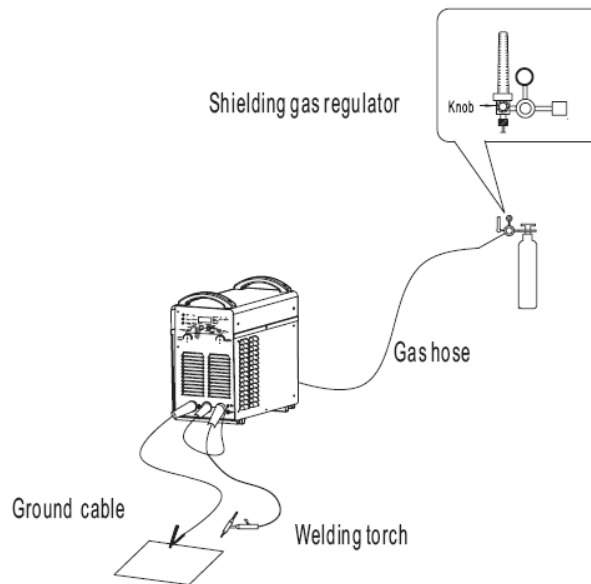

Fig. 4-6-3: Connection and operation for gas-cooling TIG welding
• **The connection and operation for gas-cooling TIG welding (Fig. 4-6-3)**